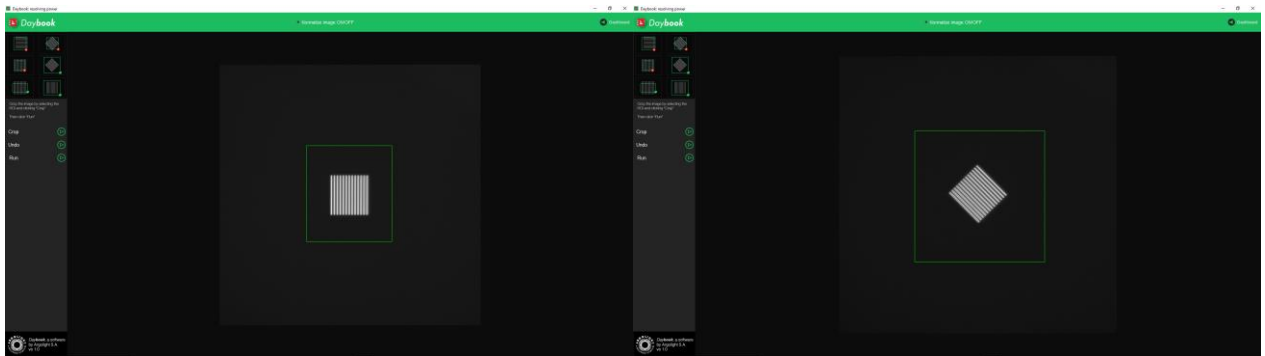

Figure 2: Cropping interface windows.
- If needed, select a region of interest (ROI) and click on “Crop” to crop the image (*cf.* Figure 2).